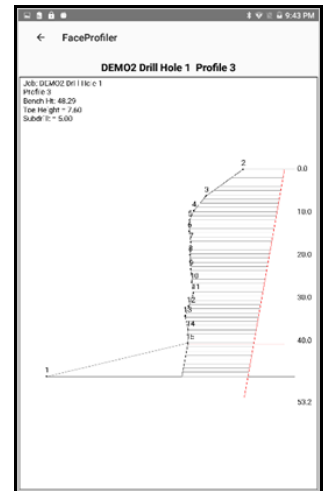

Figure 44
- Tap [Plot] to view the calculated data as a graphic plot (Figure 44, Page 33)
- Tap [Plot] to view the calculated data as a graphic plot (Figure 44, Page 33).
2. Tap the [Plot] button. Figure 44 shows a sample plot.